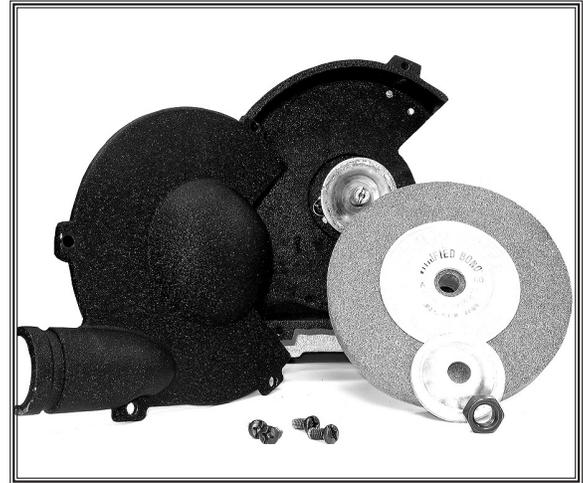

Figure 8. Grinding wheel access.
2. Disassemble grinder to the level shown in Figure 8.
4. Install the new wheel in the order shown in Figure 8 and tighten the arbor nut snugly, but do not over tighten or you will crack the wheel.